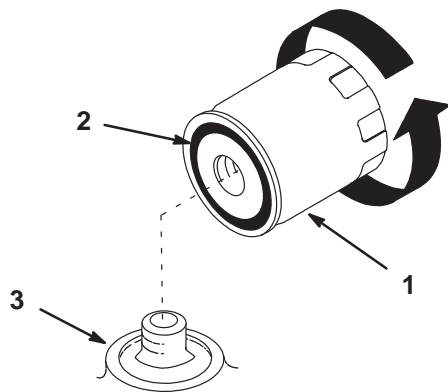

Figure 27
2. Remove the old filter and wipe the filter adapter (Fig. 27) gasket surface.
3. Apply a thin coat of new oil to the rubber gasket on the replacement filter (Fig. 27).
4. Install the replacement oil filter to the filter adapter. Turn the oil filter clockwise until the rubber gasket contacts the filter adapter, then tighten the filter an additional 3/4 turn (Fig. 27).